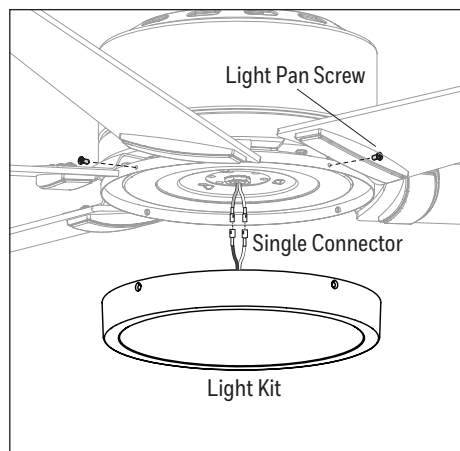

Figure 5.7
7. Remove the four light pan screws preassembled to the light pan. Then, connect the single-pin connector from the fan to the single-pin connector from the light kit -- blue to black and white to white. Secure the light kit with the previously removed light pan screws (Figure 5.7).